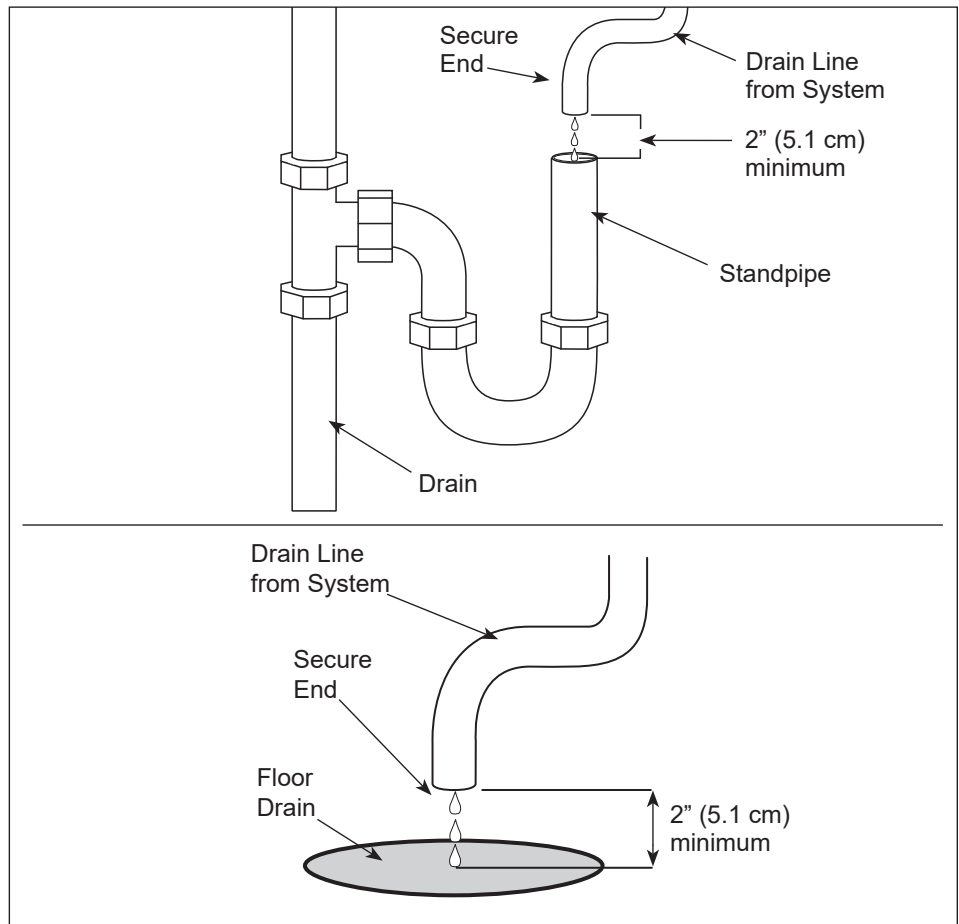

Figure 4. Drain Line Plumbing
- The drain line plumbing must be positioned and secured at least 2 inches above the drain (Figure 4). This air gap protects the system from contamination in the event of a backed-up drain.